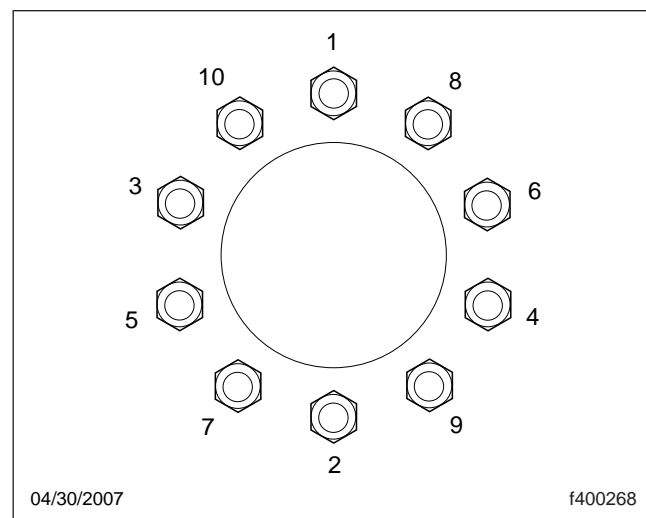

Fig. 21.4, Tightening Pattern, 10-Hole Wheels
- 4.3 Make sure all wheel nuts are tightened. If tightening is necessary, use the tightening pattern in Fig. 21.4 to initially tighten the flange nuts to 50 to 100 lbf·ft (68 to 136 N·m). Then tighten the flange nuts to 450 to 500 lbf·ft (610 to 678 N·m).